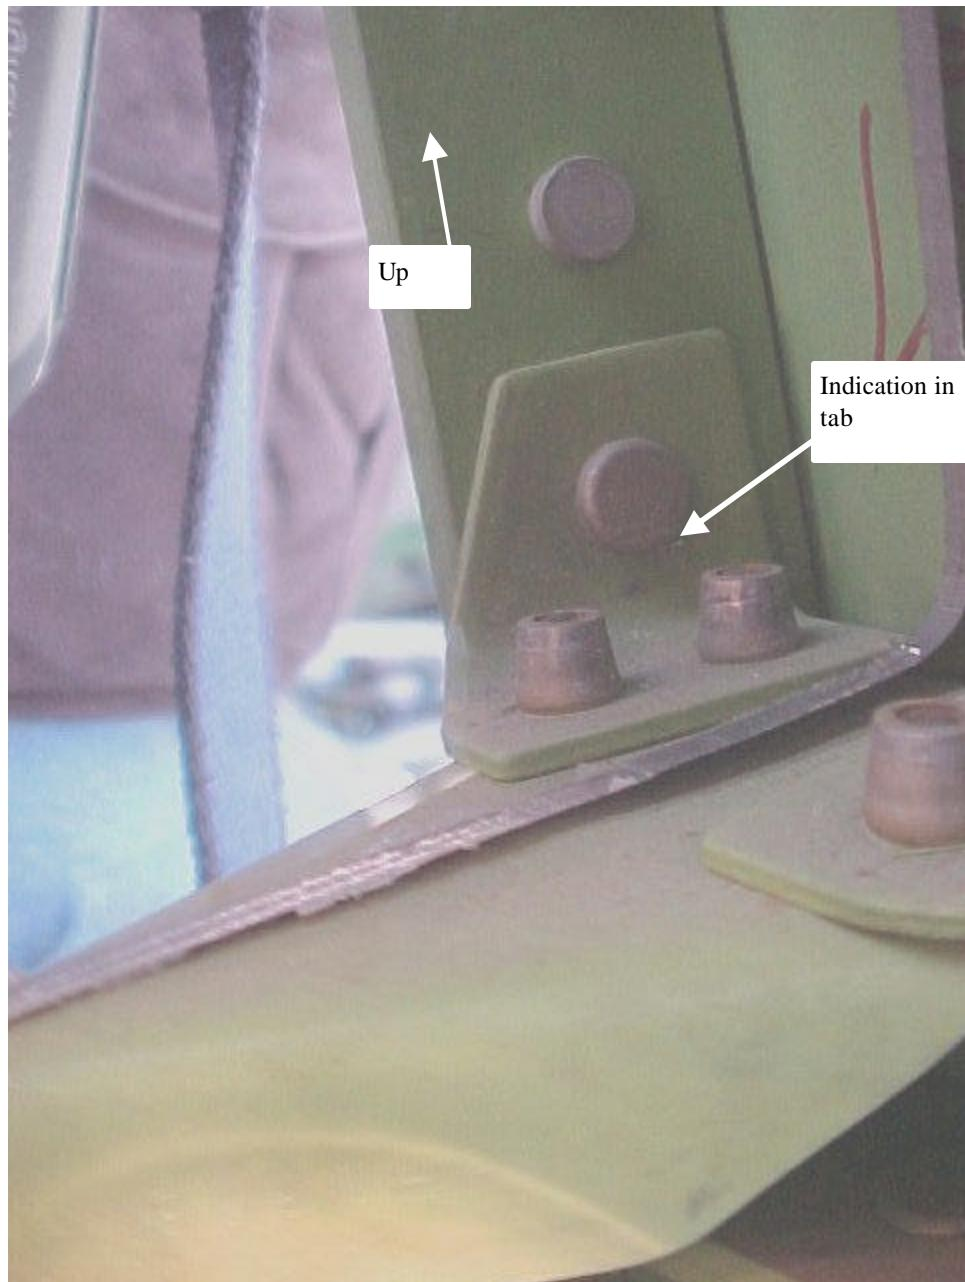

Figure F-2. Photograph documenting an indication in the tab on reverse side of frame flange at FS 783.95 (aft side of fwd door).
- FIGURE F-2 Photograph documenting an indication in the tab on reverse side of frame flange at FS 783.95 (aft side of fwd door). .....F-3